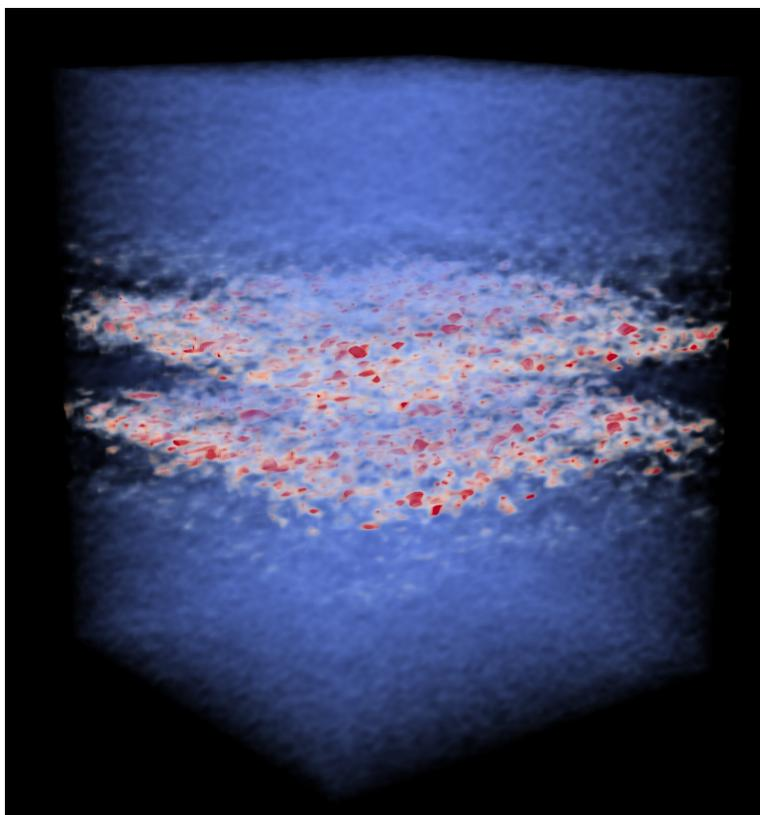

Figure 3: 3D stress tensor for a bilayer system visualized in ParaView
- Q13. Can the 3D stress tensor be loaded into other programs for visualization?** Yes. The easiest way to do this is to first convert the binary stress file to the NETCDF format using the `tensorools` utility. You can then load this generic NETCDF file into programs such as UCSF Chimera or ParaView. Figure 3 shows an example of visualizing a single element of the stress tensor in ParaView.